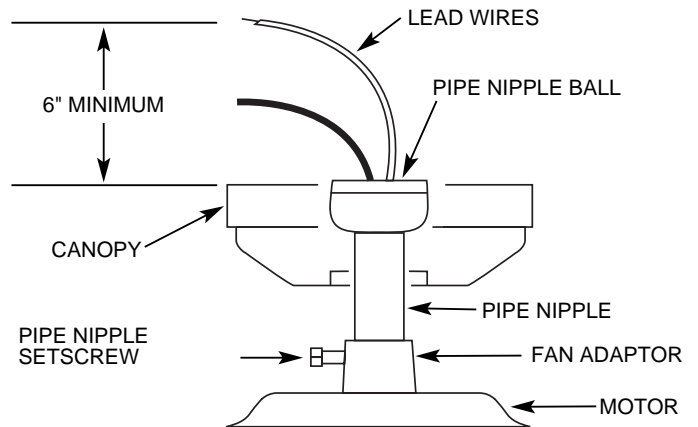

Figure 5B
A. Insert the pipe nipple through the canopy and feed the wires from the fan through the pipe nipple. Screw the pipe nipple into the fan adaptor until it is tight (at least 4-1/2 turns). Tighten the pipe nipple setscrew very securely, locking the pipe nipple to the fan adaptor. See Figure 5B.